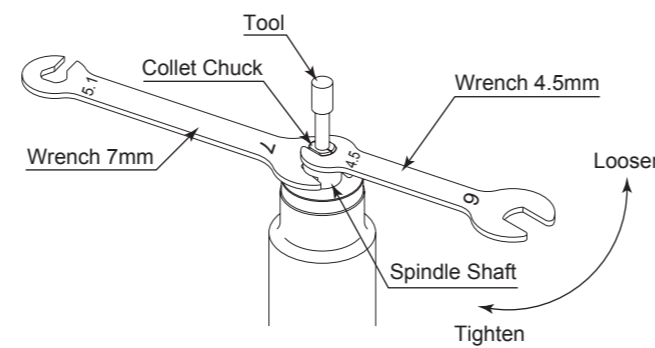

Fig. 3
- Remove the tool according to the section "8. CHANGING THE TOOL" procedure above (Fig. 3).